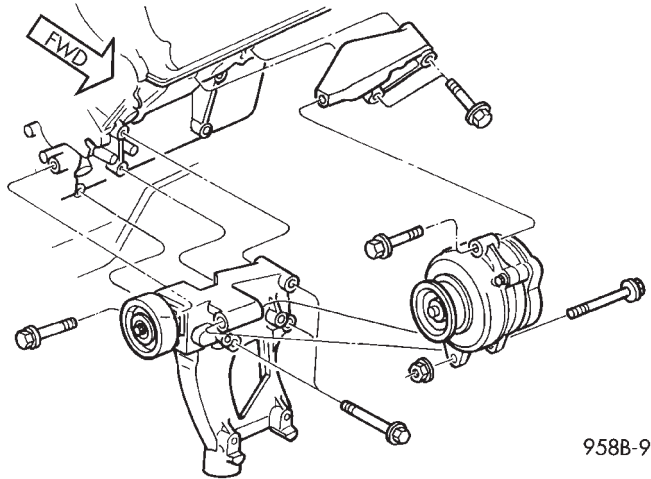

Fig. 11 Generator—2.5L Engine
- (4) Loosen top mounting ear bolt.
- (5) Loosen pivot bolt, but do not remove. Be careful not to lose nut (Fig. 11).